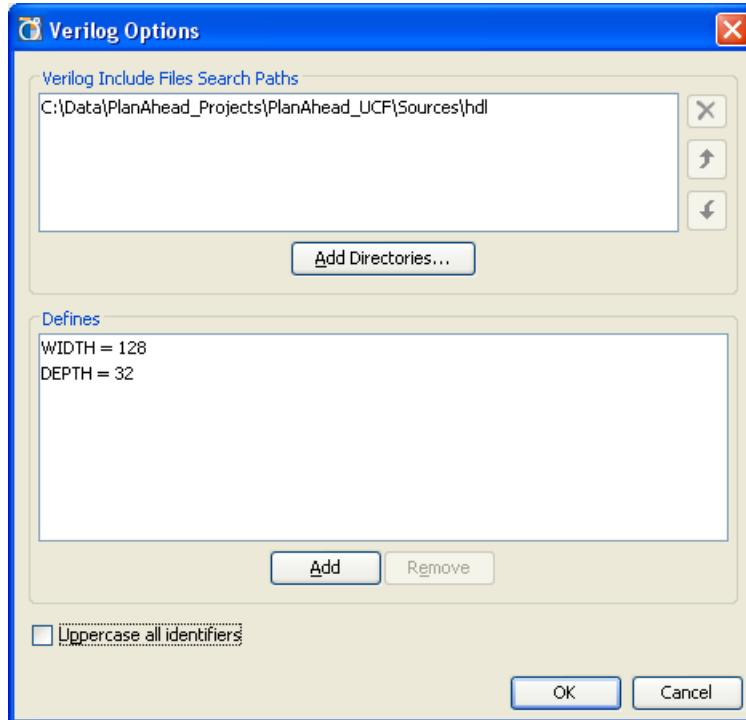

Figure 3-47: Verilog Options
- **Verilog Options** — Specify Verilog options as defined below. These options are defined on the Verilog Options dialog box, are shown in Figure 3-47, page 96.